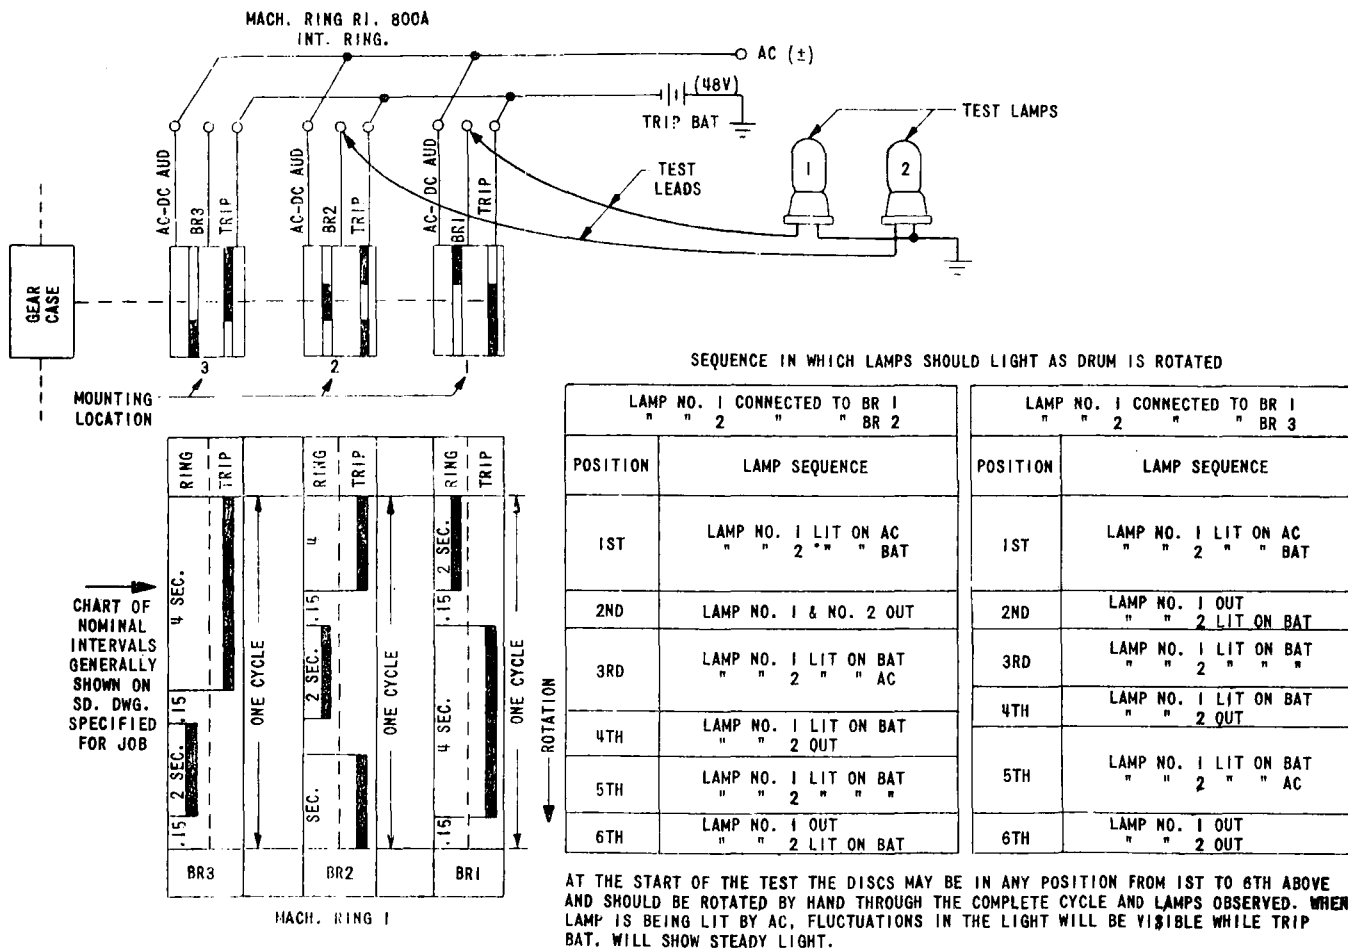

FIG. 3 SAMPLE TEST FOR INTERRUPTER TIMING
9.21 Timing of mercury interrupters are a function of the type, mounting location, and keyway location. These are indicated on drawing ED-80296-01 or -30. Schematic drawings will indicate timing intervals. (Refer to Figure 3).
9.22 Timing may be checked by the use of 120 volt lamps. Refer to Figure 3. Connect a lamp from BR1 to ground and start the machine. Observe if lamp lights on AC and then on trip battery for the proper intervals on chart shown on interrupter and distributing SD circuit drawing specified for job. Repeat for BR2 and BR3.
9.23 Relation of one disc to another may be checked by using two test lamps as in Figure 3. From the timing chart make a sequence chart for two test lamps, one connected to BR1 and ground and the other to BR2 and ground. Rotate the interrupter shaft using the crank connected to the gear case high speed shaft and check lamp sequences. If these are correct with respect to each other, connect test lamp 2 to BR3 and repeat test for relation between BR1 and BR3. Continue in this way to check relation of other discs to BR1.